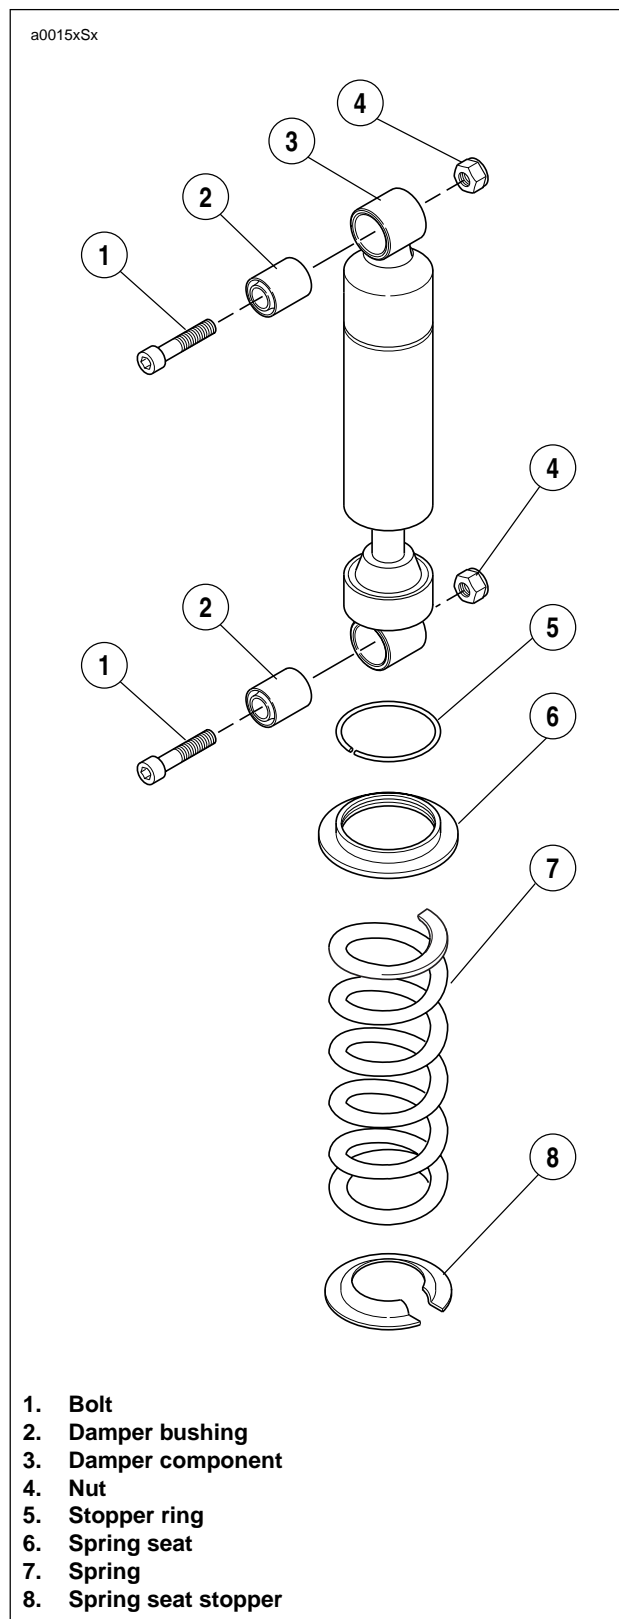

Figure 2-60. Rear Shock Absorber Assembly
See Figure 2-60. Damper component (3) cannot be serviced or repaired. If the damper component is leaking or damaged it must be replaced.
5. See Figure 2-60. Remove bolt (1) and nut (4) on top mount.
6. While supporting the shock absorber, remove the bolt (1) and nut (4) from the bottom mount.
1. See Figure 2-60. Place **new** damper bushings (2) into mounting holes of shock absorber (if not installed).